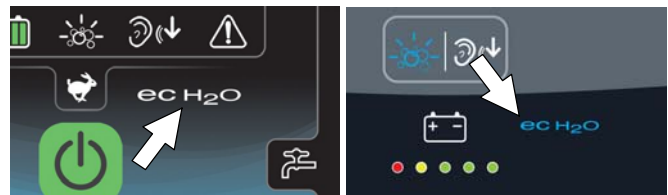

FIG. 82
2. ec-H2O models - The ec-H2O system will automatically turn on at key start up. The ec-H2O indicator will appear on the control panel indicating that the system is activated (Figure 82).